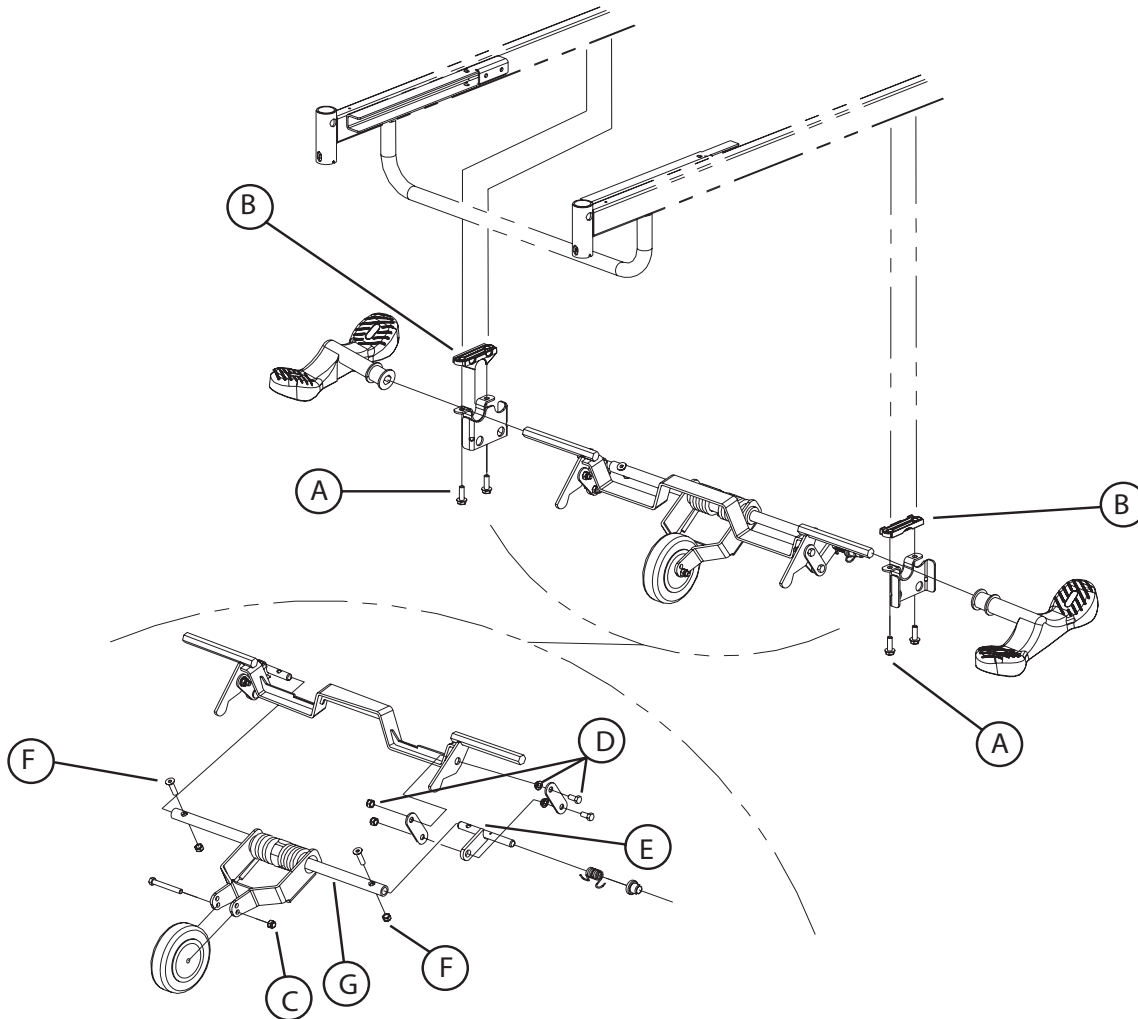

Figure 4.4 A
4. Using the 1/2" socket, remove the two bolts (A) holding the fifth wheel support (optional) or the lever support (F, Figure 4.4 B, (without fifth wheel option) pg. 62) on the side of the defective pedal and lay the support down. Keep the molded spacer (B).
Unless otherwise indicated, refer to Figure 4.4 A on pg. 58 for the following replacement procedure.